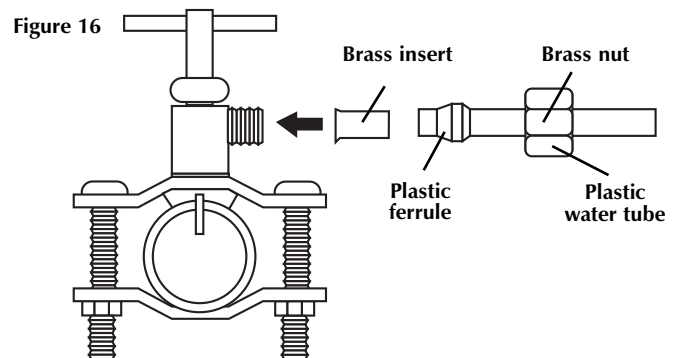

Figure 16
4. Select the most convenient location for connecting the self-piercing needle valve on a cold water pipe. Connect the needle valve as shown (fig 16). The hardware shown is supplied in the needle-valve kit. Once the the valve is connected to a pipe as shown, TURN THE VALVE CLOSED ALL THE WAY, and then open so water can flow to the humidifier. Check all fittings for leaks and tighten/repair if necessary.